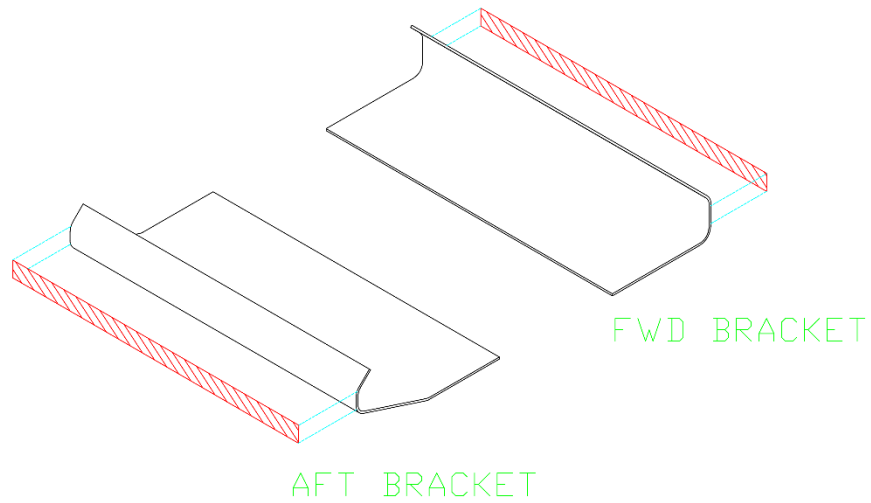

Figure-1
1. Apply anti-chafe tape to the both fuel tank retention brackets in the locations shown in Figure-1.